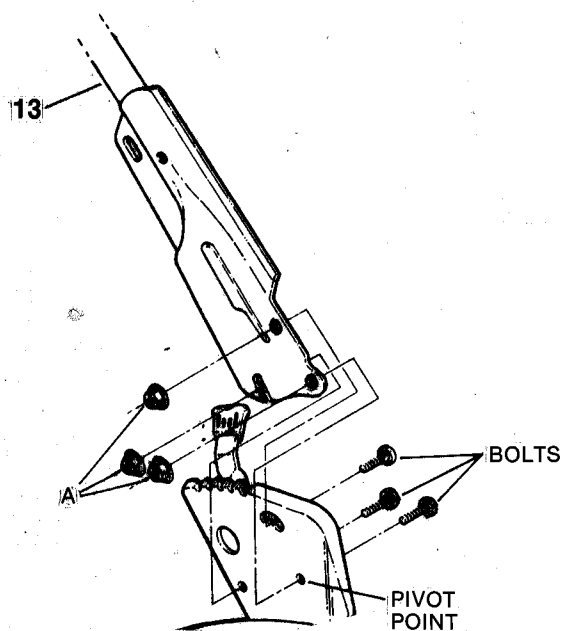

FIG. 19 HEIGHT ADJUSTMENT
To raise or lower handle (13), loosen the adjusting locknuts (A) on both sides of handle shown in FIG. 19. Reset handle to desired position and re-tighten the locknuts.